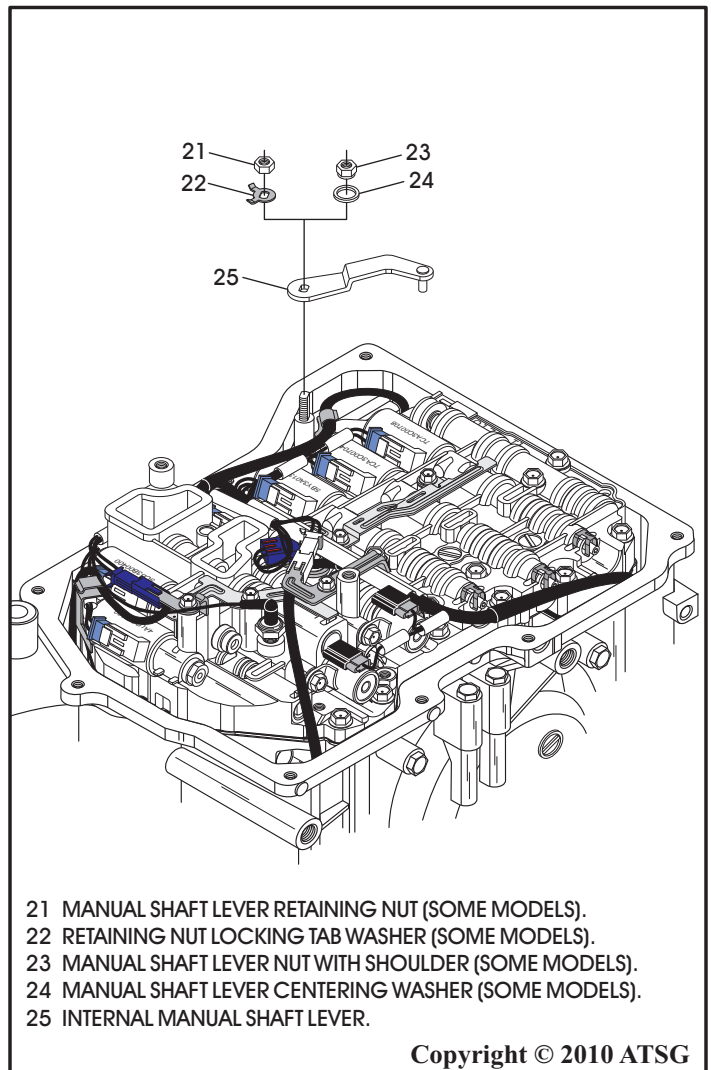

Figure 56
Note: There are two different designs of the manual lever nut, as shown in Figure 56, one of which has a locking tab washer.
13. Remove the internal manual shift lever from the manual shaft, as shown in Figure 56.